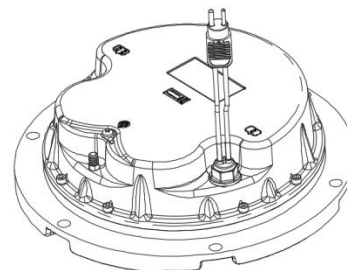

Figure 4-22
- After detection, release the air pressure in the lighting fixture with the air valve of the valve core, re-screw the valve cap and put it into use (Figure 4-22). In case of leakage, check the causes according to the previous prompts and repeat the whole lighting fixture disassembly and assembly process or return it to the factory for maintenance.